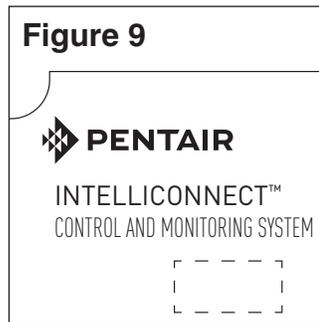

Figure 9
- Note:** "Device ID" is your IntelliConnect's unique device code. This code can be found inside the enclosure, on the bottom left of the control panel overlay (see the dashed box in **Figure 9**). This code should be entered exactly as it appears on the overlay.